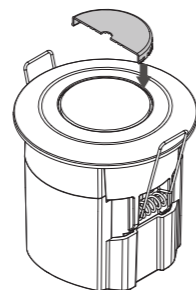

FIG.13
- Fixing lens shield: There is slot around the lens and insert the lens shield into slot (See FIG.13).